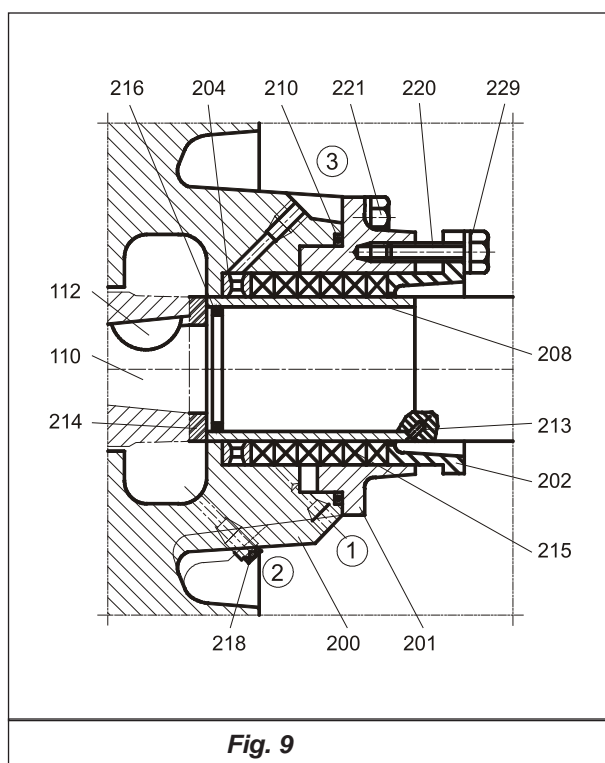

Fig. 9
Sometimes the lantern ring position change is enough, depending on the pumped fluid characteristic (204) Fig. 9.